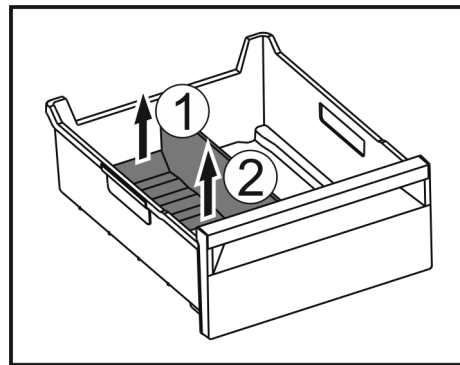

Fig. 120
- ▶ Lift the rear part of the ice compartment divider. Fig. 120 (1)
- ▶ Remove the ice compartment divider upwards. Fig. 120 (2)